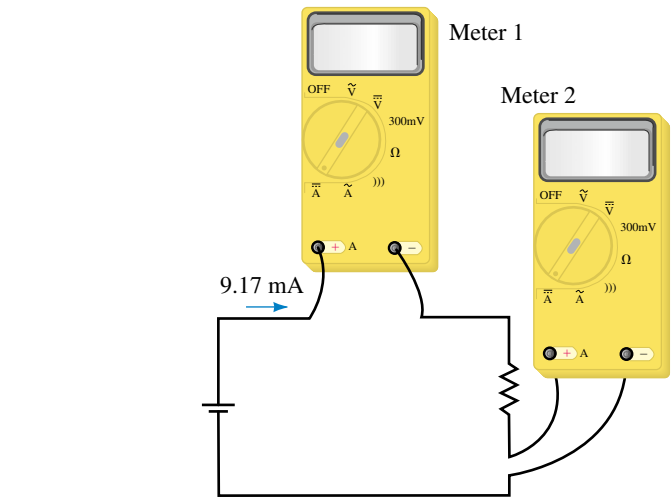

FIGURE 2-32
43. The current in the circuit of Figure 2-32 is 9.17 mA. Which ammeter correctly indicates the current? (a) Meter 1, (b) Meter 2, (c) both.